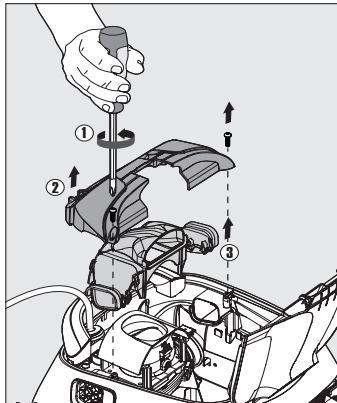

FIGURE 29
1. Using a No. 2 Phillips-head screwdriver, remove the two screws that hold the intermediate cover and manifold assembly in place. These screws can be found in the inside corners of the intermediate cover. See Figure 29.
3. Gently pull the intermediate cover (Item #2 in Figure 29) away from the cleaner and place it aside.
4. Gently pull the manifold assembly (Item #3 in Figure 29) away from the cleaner and place it aside.